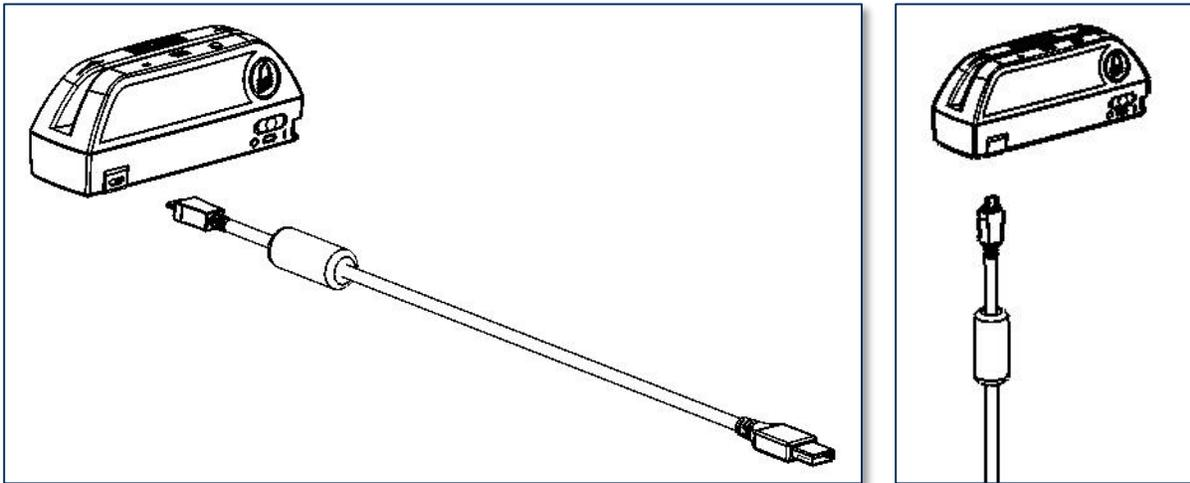

Figure 2-2 - Connecting DynaPro Mini to a Computer
- 2) Connect the small end of the USB cable to DynaMAX as shown in **Figure 2-2**. The Micro USB connector can be swiveled to orient vertically for connections through the mounting surface, or horizontally for other types of cable run.